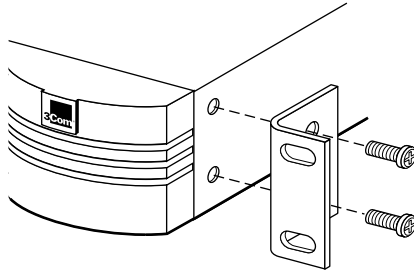

Figure 2-2 Attaching a Bracket for Rack Mounting
- 2 Position a bracket over the mounting holes on one side of the hub, as shown in Figure 2-2.